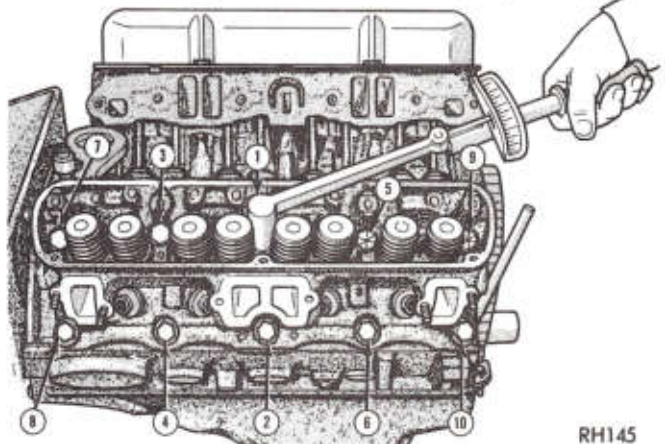

Fig. 8—Cylinder Head Bolt Tightening Sequence
(3) Coat new gaskets lightly with number 1057794 Sealer and install on cylinder block.
(4) Remove cylinder heads from holding fixtures and place heads on engine.
(5) On 8 cylinder engines bolt thread sealer is not required. Starting at top center, tighten all cylinder head bolts to 50 ft. lbs (68 N·m) in sequence shown in Figure 8. Repeat procedure, retighten all cylinder head bolts to 105 ft. lbs. (143 N·m).
(6) Inspect push rods and replace worn or bent rods.
(7) Install push rods, rocker arm and shaft assemblies with the "NOTCH" on the end of rockershaft pointing to center line of engine and toward front of engine on the left bank and to the rear on right bank, making sure to install the long stamped steel retainers in the number two and four positions, tighten to 200 in. lb. (23 N·m).